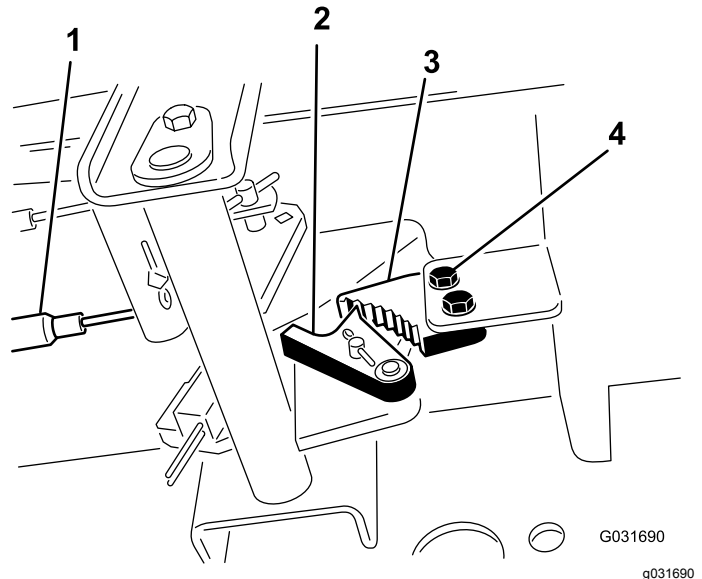

Figure 74
1. Loosen the 2 screws securing the parking brake pawl to the frame (Figure 74).
2. Press the parking brake pedal forward until the brake detent completely engages on the brake pawl (Figure 74).